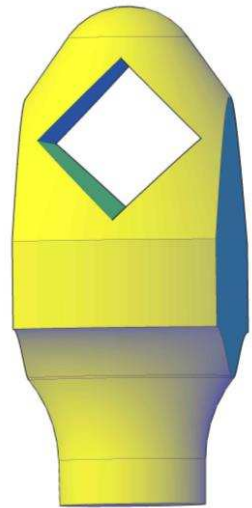

Figure 6a
6. A cylindrical solid was machined and its shape partly changed from a cylinder to a cone with a spherical nose end as illustrated in Figure 6a. Two vertical parallel sections were cut off leaving two flat surfaces. Finally, a square hole was machined through the upper conical solid.